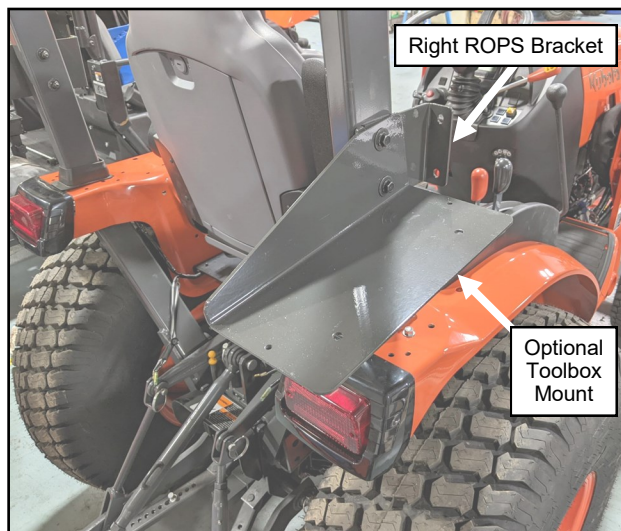

Fig. 2.3 (Install Right ROPS Bracket)
- 2.3** Attach the right ROPS bracket to the ROPS. If required, sandwich the optional toolbox mount between the right ROPS bracket and the fender washers. See Figure 2.3. Leave hardware loose.